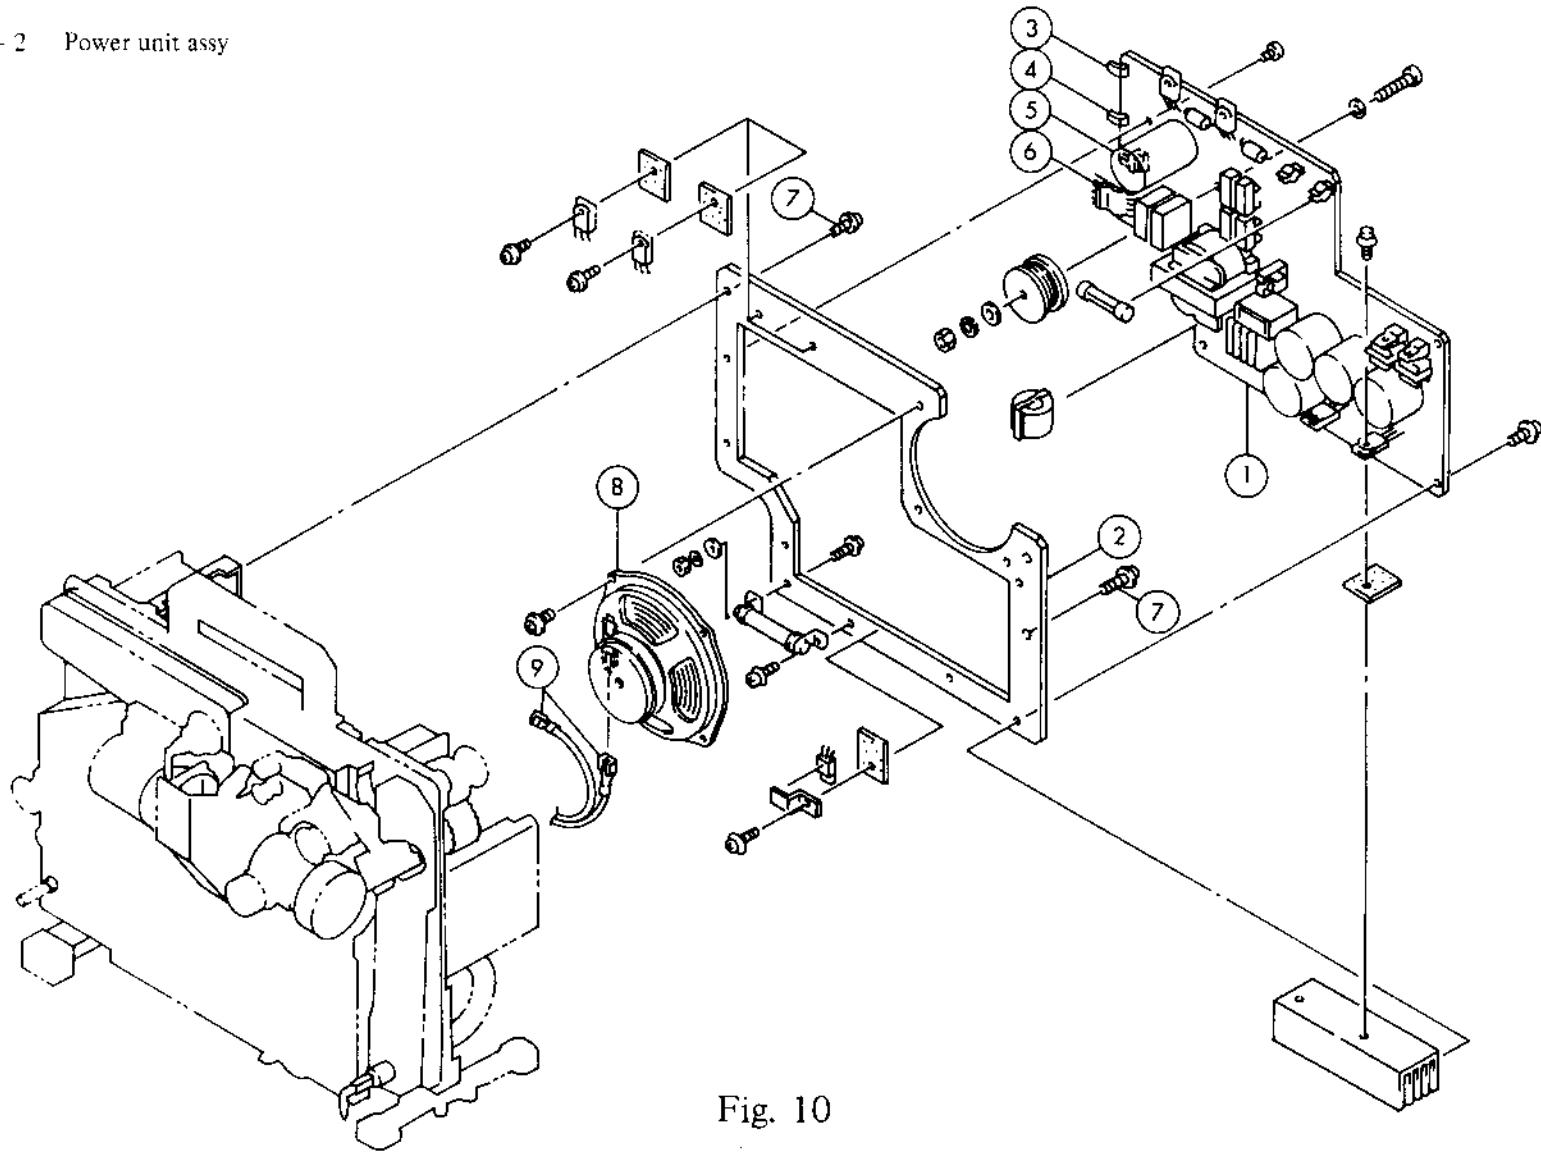

Fig. 10
1. Remove connectors ③ - ⑥.
2. Remove ⑦ x 3 and assy ① and ②.
3. For further disassembly, refer to Fig. 10.